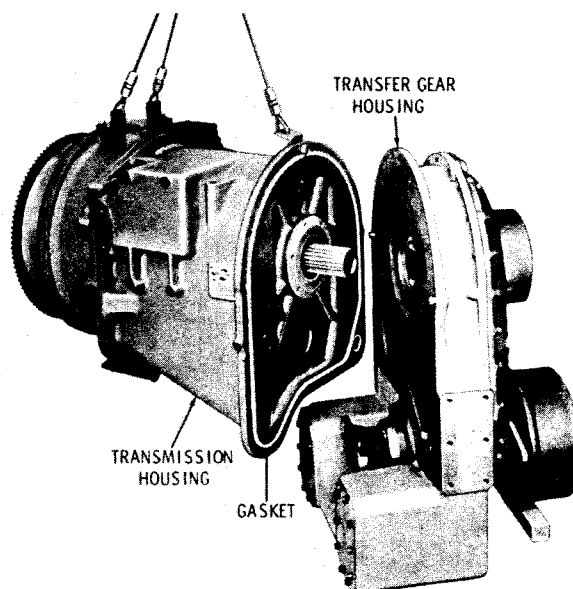

Fig. 5-7. Transmission housing separated from transfer gear housing
(4) Remove the suspended transmission housing from the transfer gear housing (fig. 5-7). Remove the cork gasket (prior to S/N 26374), or flat gasket (starting with S/N 26374).